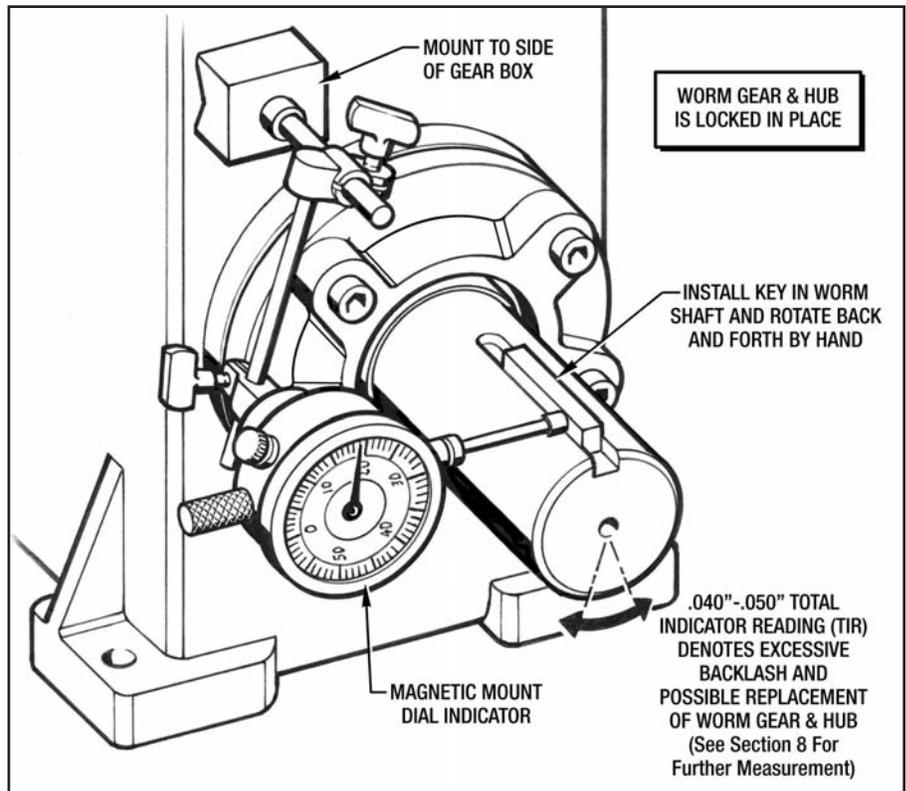

Figure 6.1 - Measuring Worm Gear Backlash
3. Mount a Magnetic Mounted Dial Indicator to the side of the gear box as shown in *Figure 6.1*.